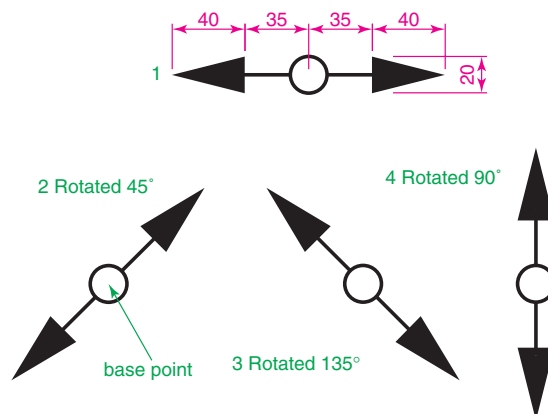

Fig. 5.27 Example – **Rotate**
Example – Rotate (Fig. 5.27)
1. Construct drawing **1** of Fig. 5.27 with **Polyline**. Copy the drawing **1** three times (Fig. 5.27).
3. Repeat for drawings **3** and **4** rotating as shown in Fig. 5.27.